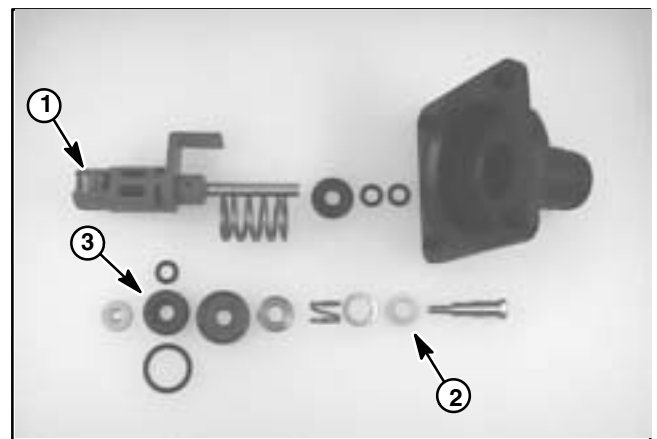

Figure 27
A. Remove the fork (item 29) that secures the motor and spindle sections to the manifold assembly.
3. To allow easier separation of the motor and spindle sections, make sure that valve motor is in the closed position (green indicator is recessed into the spindle housing). Remove four phillips head screws (item 15) and separate spindle section from motor section.
5. Inspect and disassemble spindle section (Fig. 27).